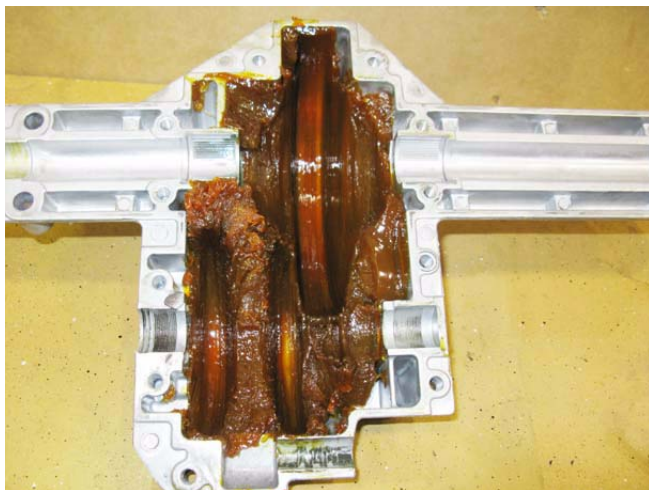

Figure 6.97
- 14e. If the transaxle is repaired, the damage is isolated, and the grease is not contaminated with anything, it is acceptable to re-use the grease. See Figure 6.97.